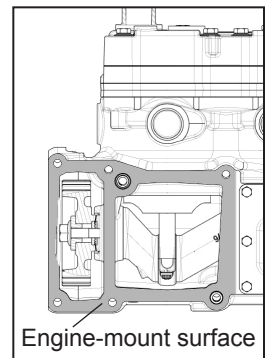

Figure 5 – Compressor-to-Engine Mounting Surface
1. Carefully remove all sealant gasket material adhering to the machined mounting face of the crankcase. (See Figure 5). Make certain not to scratch or mar the mounting surface. Note: Keep the crankcase opening covered to prevent any of the sealant material from entering. Repeat this process on the engine mounting face as well. Follow the instructions contained in the vehicle maintenance manual in lieu of the instructions and procedures presented in this manual.
1. Apply a liquid gasket sealant to the compressor / engine mounting interface (*Refer to Figure 5 for compressor mounting face*). Follow the Engine or Vehicle Manufacturer's guidelines for the proper liquid gasket sealant material and application procedure.